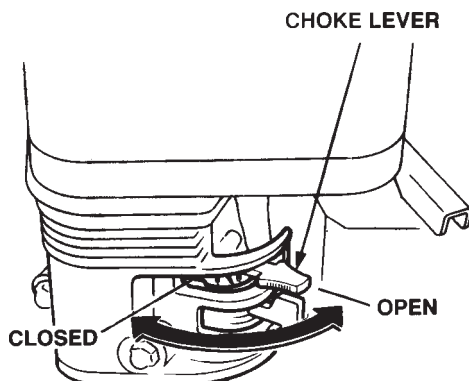

Figure 11. Choke Lever
3. Place the **Choke Lever** (Figure 11) in the "OPEN" position.
6. If the engine has started, slowly return the choke lever (Figure 11) to the **CLOSED** position. If the engine has not started repeat steps 1 through 5.
2. Place the **Engine ON/OFF switch** (Figure 11) in the "**OFF**" position.